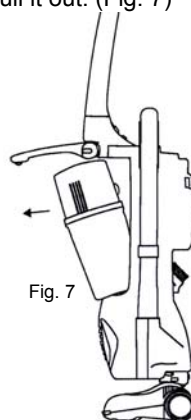

Fig. 7
2. Grasp the dust cup from the top, tilt downwards and pull it out. (Fig. 7)